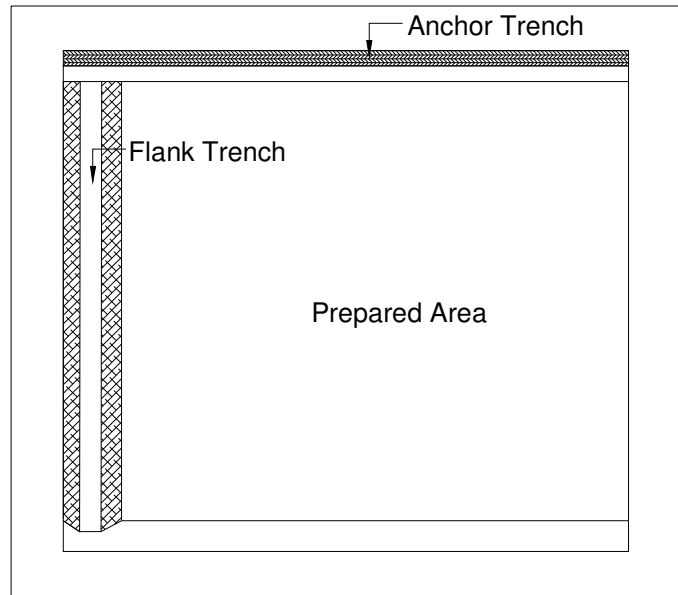

Figure 2. Positions of anchor trench
- a. Excavate an anchor trench at the top and on both sides of the prepared area. Picture 2 shows the excavation of the anchor trench at the top of slope. Anchored ACEFormer™ will enhance the stability of revetment. Illustration of anchor trench positions is shown in figure 2.